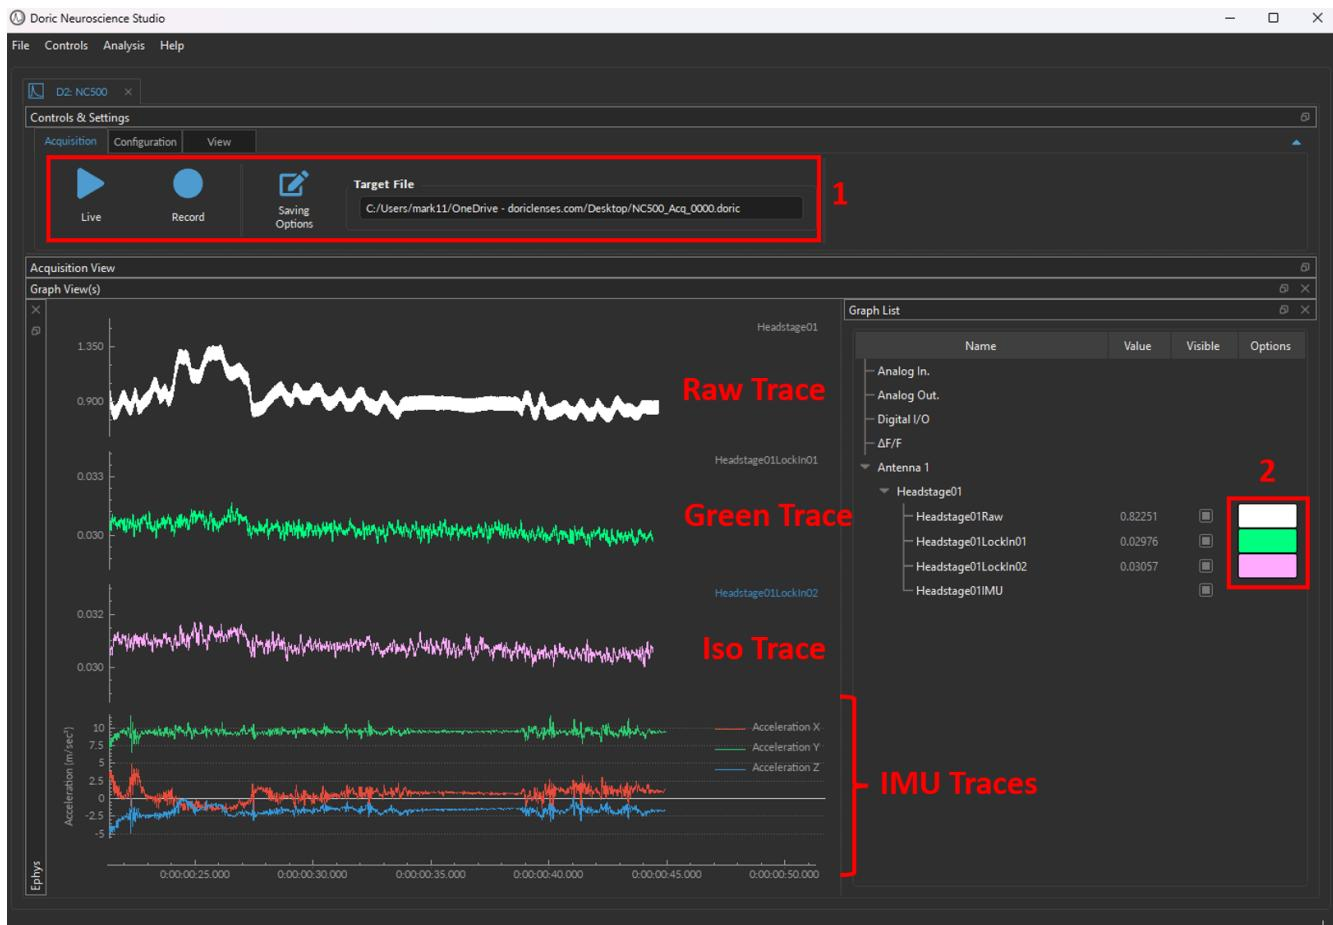

Figure 2.12: Acquisition Window
For real-time signal monitoring, use the **Live** option. To record data, click the **Record** button. Before saving, you can specify the destination folder and file index using the **Saving Options** button (Figure 2.12, 1).
- Signal Colors:** Each signal is initially displayed using a randomly assigned color. To make the visualization more intuitive, you can change the color of any channel. Simply click on the color box next to the desired channel, choose a new color (e.g., green, pink), and save the changes (Figure 2.12, 2).
Note: The signal in Figure 2.12 is recorded in ambient light, it might not be a good example of actual recording in mice.